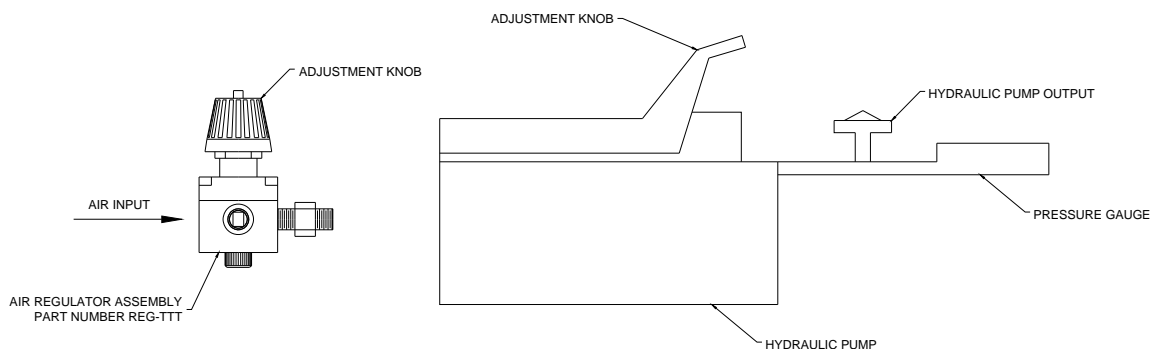

FIGURE 3. Air Regulator Assembly and Hydraulic Pump
1. Connect the Air Regulator assembly to the air input connection on the Hydraulic Pump, refer to Figure 3 below.